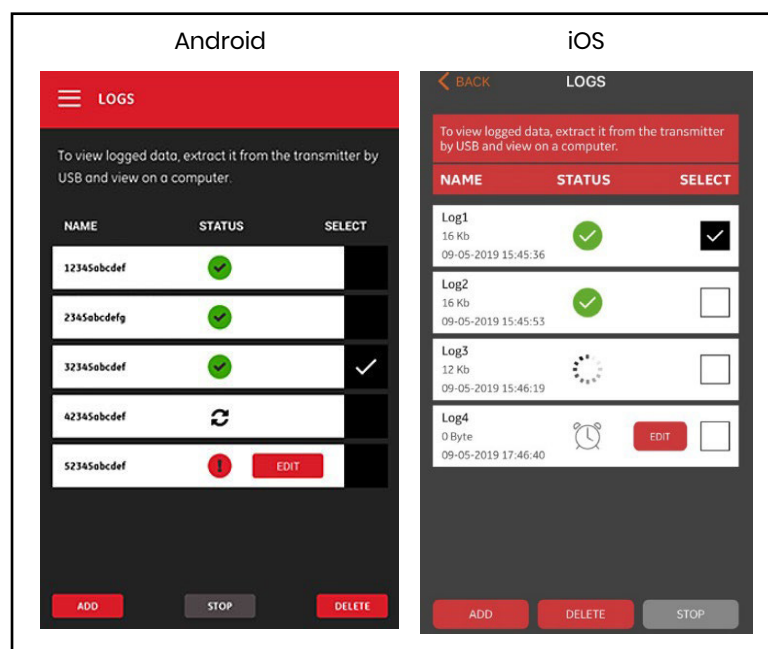

Figure 124: LOGS Main Menu
In the LOGS main menu (see *Figure 124* below), all existing logs and their current status are listed. Each listed log may be edited, stopped or deleted, depending on their current status.
1. On the LOGS main menu (see *Figure 124 on page 89*), click in the SELECT column to the right of the log you wish to delete.
1. On the LOGS main menu (see *Figure 124 on page 89*), click in the SELECT column to the right of the log you wish to stop.
1. On the LOGS main menu (see *Figure 124 on page 89*), click in the SELECT column to the right of the log you wish to edit.